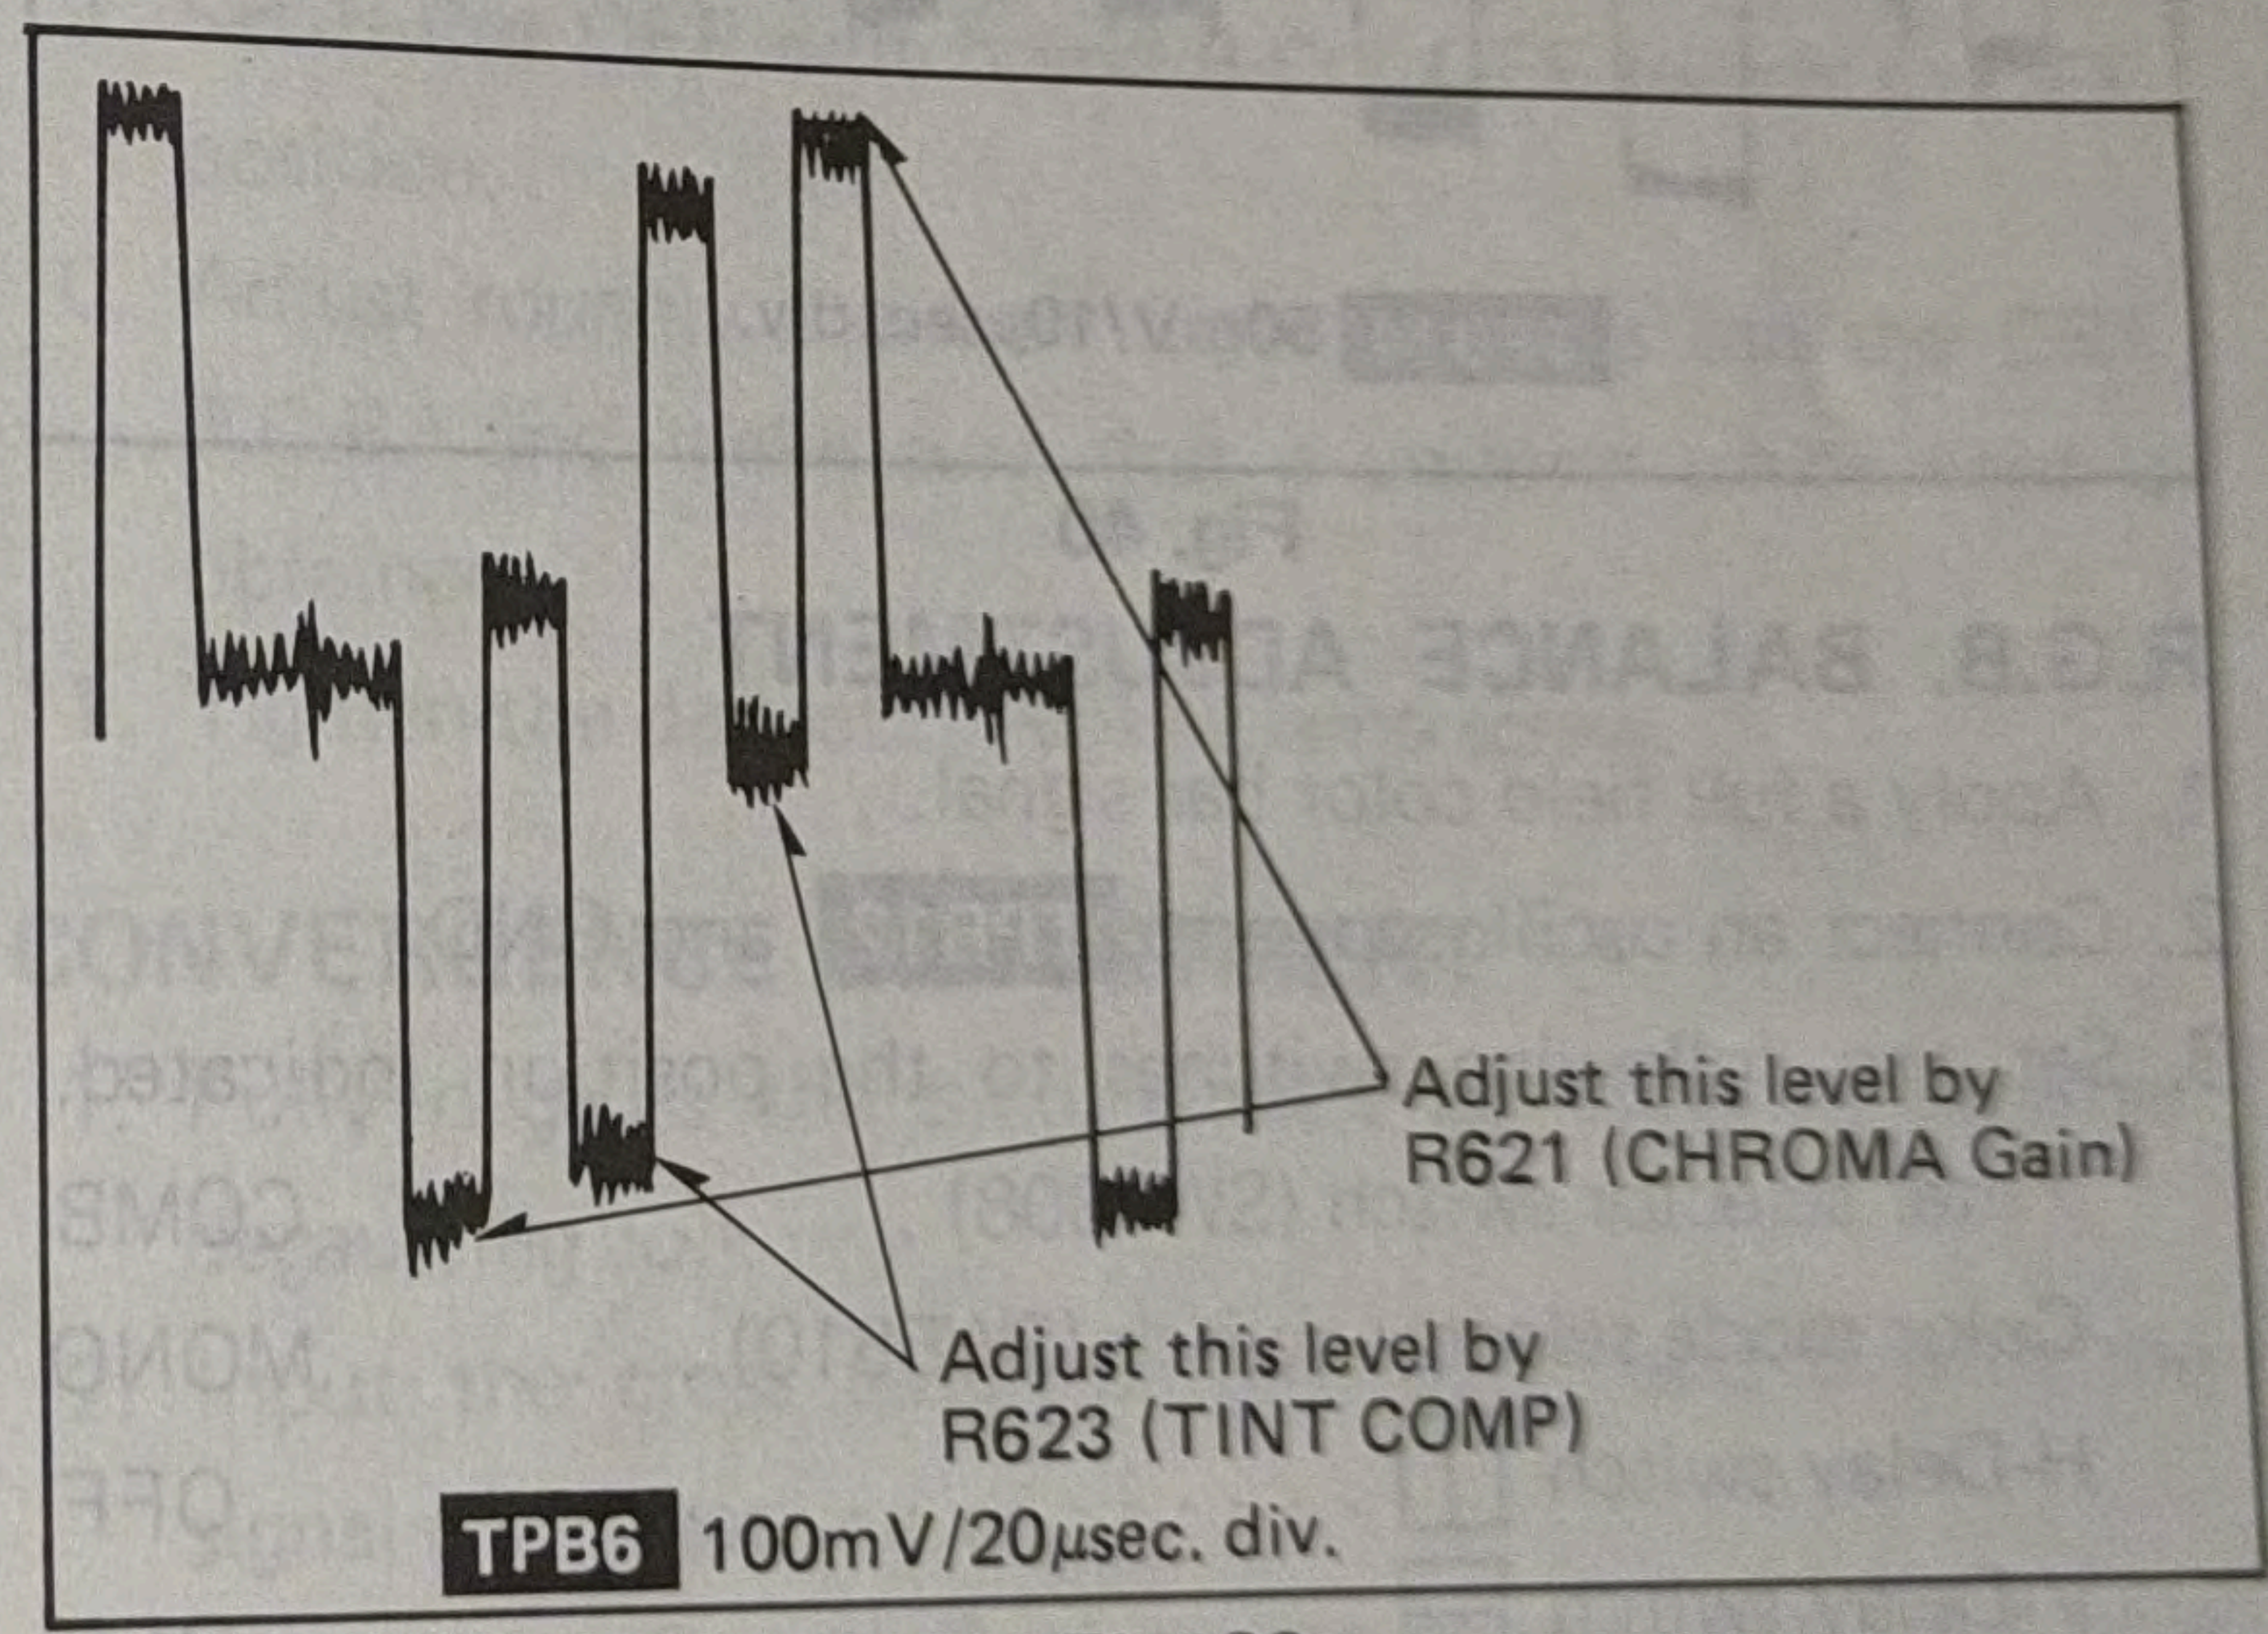

Fig. 38
7. Adjust R621 (CHROMA Gain) and R623 (TINT Comp) so that the waveform at this point of time becomes equal to that recorded in Step 5 as shown in Fig. 38.